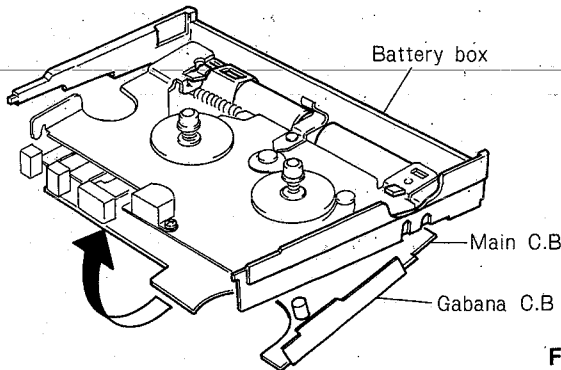

Fig. 4
1. When mounting the main circuit board to the mechanism, place the battery box, first, to the mechanism, and mount it in the mechanism by turning the box so that the hooks of the battery box can be easily fixed. (See Figure 4)